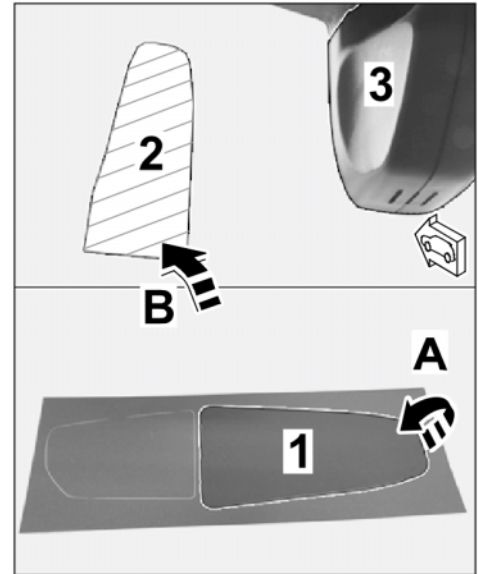

Figure 9
2.2.1 Pull 3M privacy film off the backing sheet (⇒ *Figure 9-LHD vehicle -*).
2.2.2 Position 3M privacy film on the marked bonding surface on the windshield (⇒ *Figure 9-RHD vehicle -*) and stick it on.